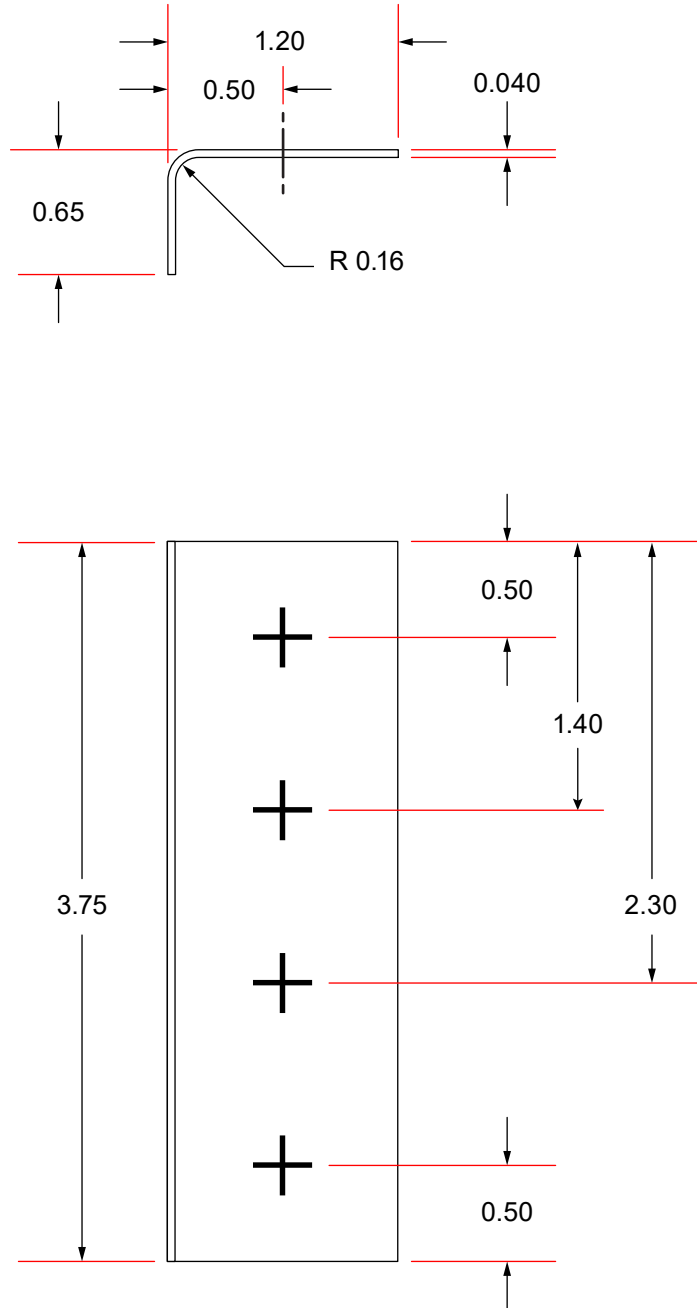

Figure 2
4. Fabricate a Stiffener Angle, quantity one (1) each per aircraft, as defined in Figure 2. This Stiffener Angle shall conform to the following specifications: